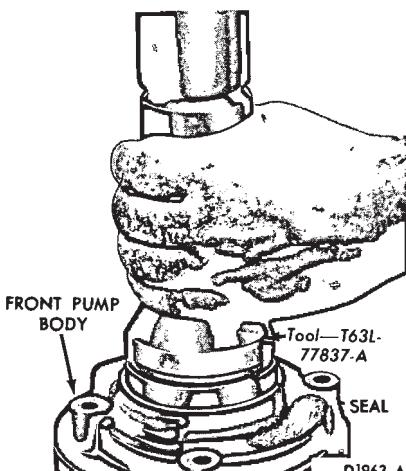
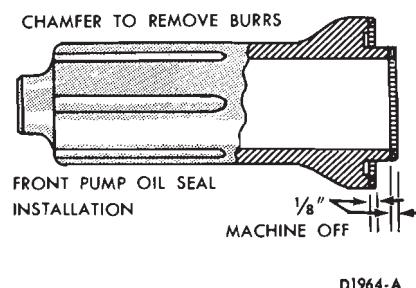

FIG. 43—Installing Front Pump Seal
FIG. 44—Front Pump Seal Installing Tool Modification Drawing
11. Coat the outer diameter of a new seal with FoMoCo Sealing Compound, or its equivalent. Then position the seal in the pump body. Drive the seal into the pump body with the tool shown in Fig. 43 until the seal is firmly seated in the body. Tool 77837 may be reworked (Fig. 44) to install the latest type seal.